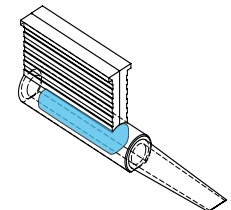

Figure 8
8. Press the cartridge flaps together until an audible click is heard. This indicates that the cartridge is locked (Figure 8).